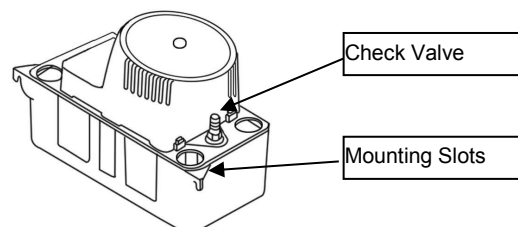

Figure 5
3. Mounting the pump: the tank has two slots provided to mount the unit. The slots are located on the ends of the tank (Figure 5). The unit should be mounted either on the side of the air conditioner unit or nearby wall.
2. The outlet piping should be flexible tubing secured with a hose Clamp (not provided) or pipe (3/8 inch ID. maximum to prevent excessive flow back to unit). From condensate unit, extend discharge piping straight up as high as necessary. Do not extend this line above the head/GPH of the particular model being installed. From this high point, slope discharge line down slightly to a point above drain area; then turn down and extend to a point below or approximately level with the bottom of the condensate unit. This will give a siphoning effect which will improve efficiency of the condensate unit and will, in most cases eliminate the need for a check valve (Figure 5). If it is not possible to slope discharge line down, make an inverted "U" trap directly above the pump at the highest point.